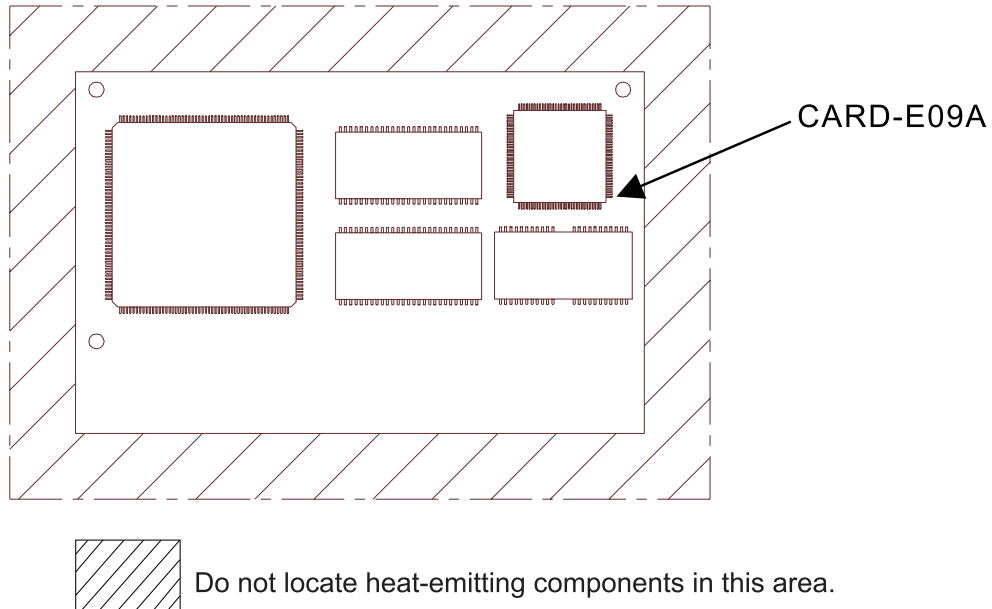

Fig. 10-1 Component restriction area for motherboard
- (4) Usually, CMOS output buffer has output impedance ranging from several to tens of ohms. However, cables on the printed board has impedance over 100 ohms and so the output buffer and the cable do not match in impedance. As a result, depending on the shape of the board's pattern, influence from reflection, etc. may occur to cause distortion in the wave form. Therefore, it is necessary to check each wave form and, if necessary, add dumping resistance or terminator resistance to correct the problem.
- (5) Do not locate a linear regulator or other component emitting large amounts of heat within 20 mm of around the CARD-E09A (component or solder surface). Fig. 10-1 shows the zone of the motherboard on which the CARD-E09A is mounted in which heat-emitting component mounting is prohibited.